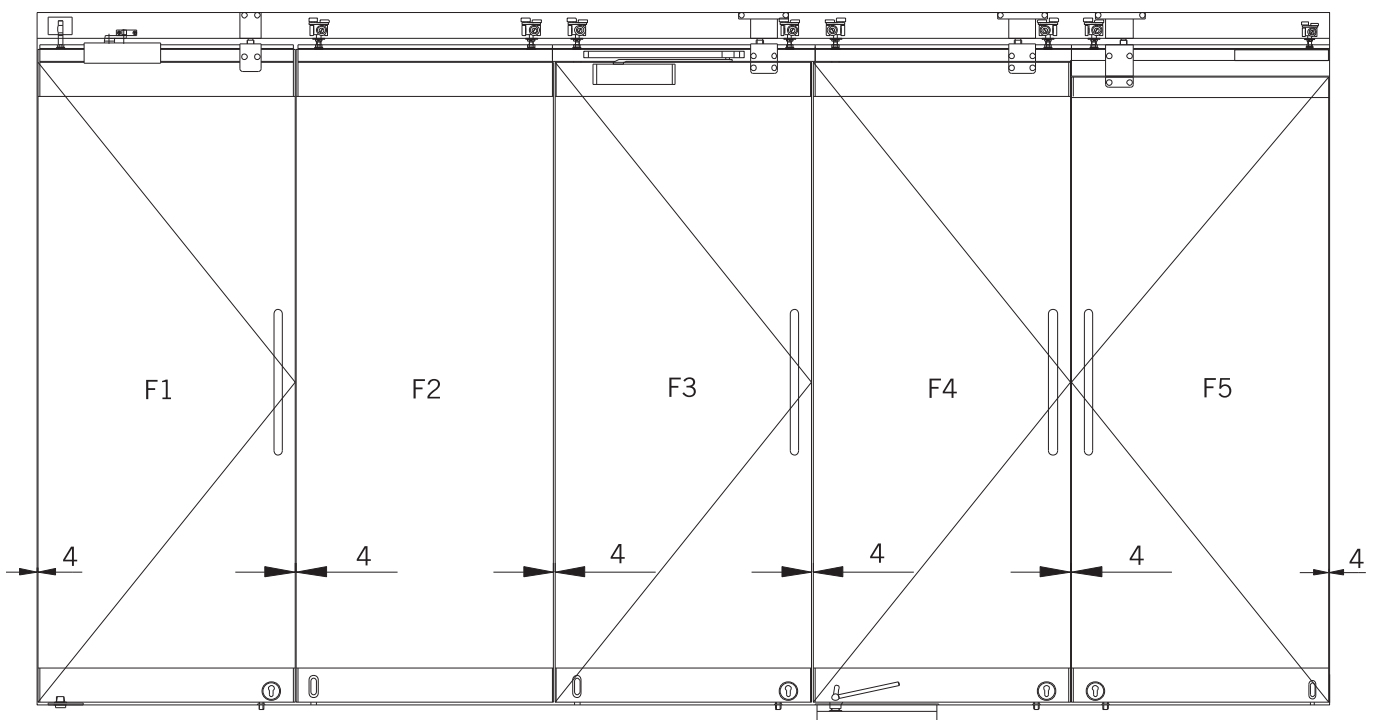

Fig. 11
Next place a panel on an 8 mm spacer block on the floor underneath the track rail and insert suspension blocks (f) into the adapter profile (c). The set screw must point outwards (Fig. 11 – (c)).
11. Example installation with 5 panels (Fig. 11):